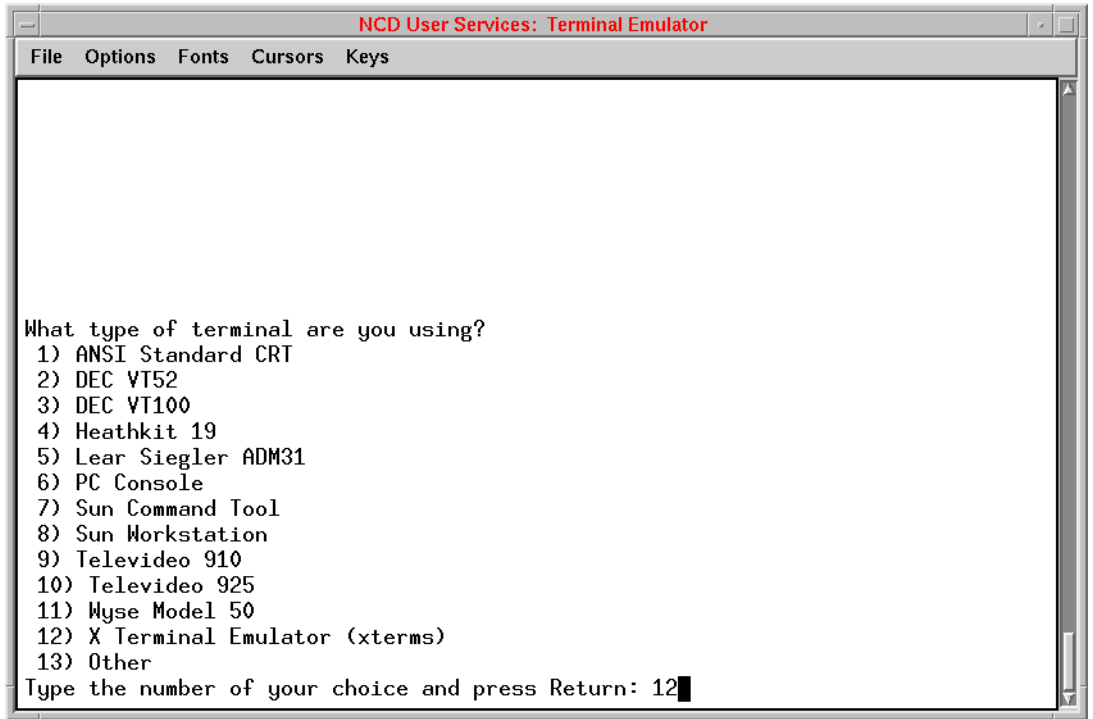

Figure 2-24: Select Type of Terminal
3. Select the type of terminal in use (see Figure 2-24); type **12** if using the X Terminal Emulator and press **<Return>**.